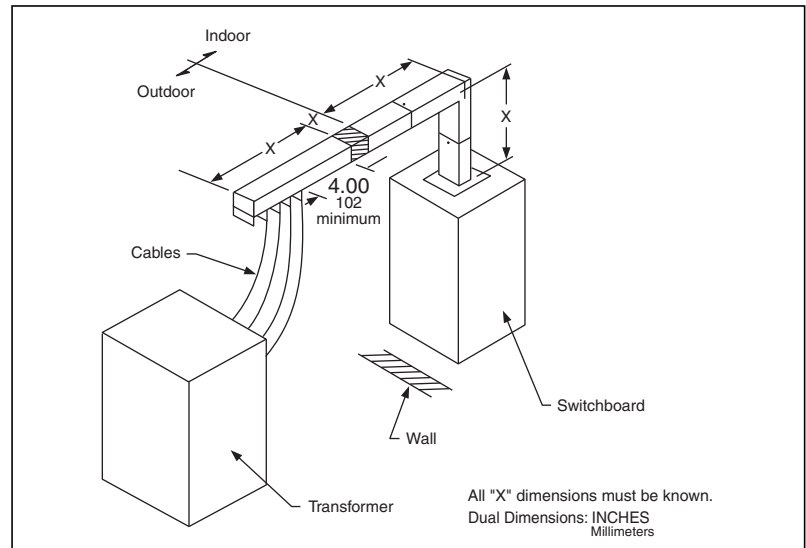

Figure 8: Transformer Tap for One Three-Phase Transformer
A flatwise service head (SB) with the box removed is therefore a transformer tap (SF). An SF is a transformer tap for one three-phase transformer. Figure 8 illustrates a typical SF service entrance run.